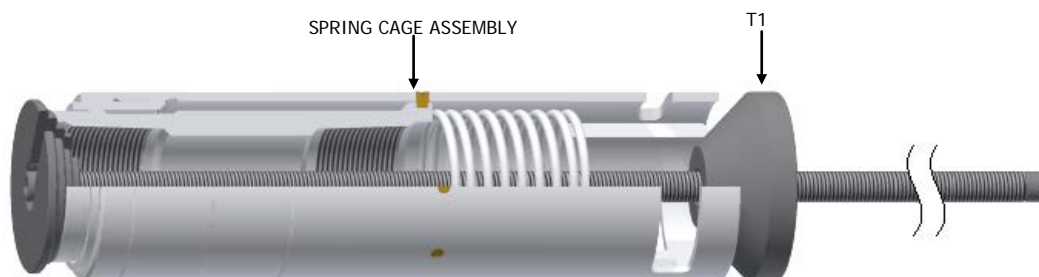

Fig. 2
J-1.16.1) Position assembly tool (T1) hand-tight against top sub (1) and spring cage (5) of spring cage assembly (Fig. 2).
**CAUTION2:** Compression spring (4) is compressed with tension against spring cage assembly.